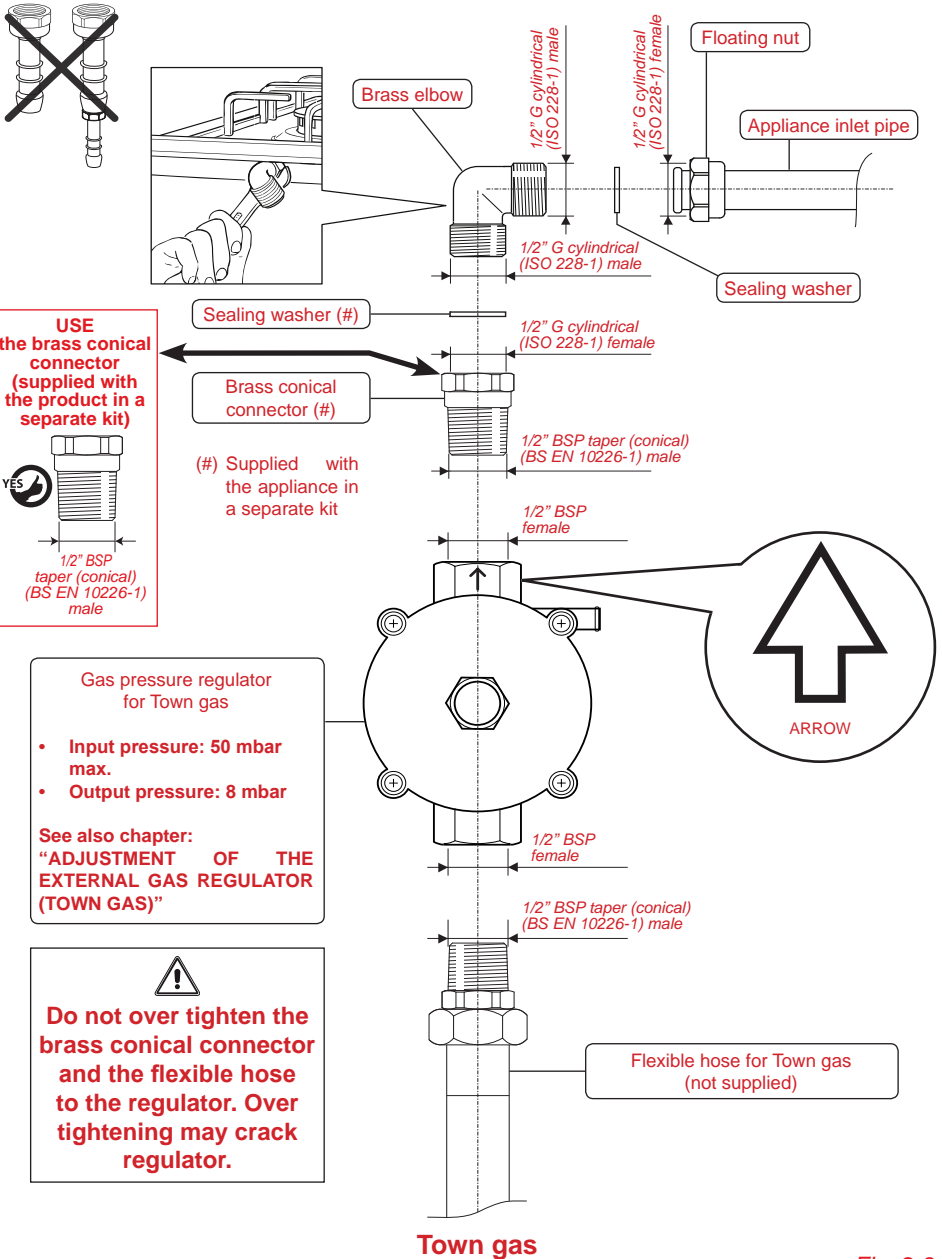

Fig. 2.3
The gas connection is made up of (Fig. 2.3):
- The brass conical connector is not already fitted on the appliance (it is supplied in a separate kit); screw that connector to the brass elbow, interposing the sealing washer provided, before starting the connection to the gas supply. Be sure to fit the conical connector as indicated in figure 2.3. Pay special attention to not loosen the elbow and floating nut connection when fitting the brass connector.
1. Connect the gas regulator to the appliance (arrow up) and the other end to the town gas flexible hose (refer to the chapter "GAS CONNECTION FOR TOWN GAS ONLY" and to Fig. 2.3).